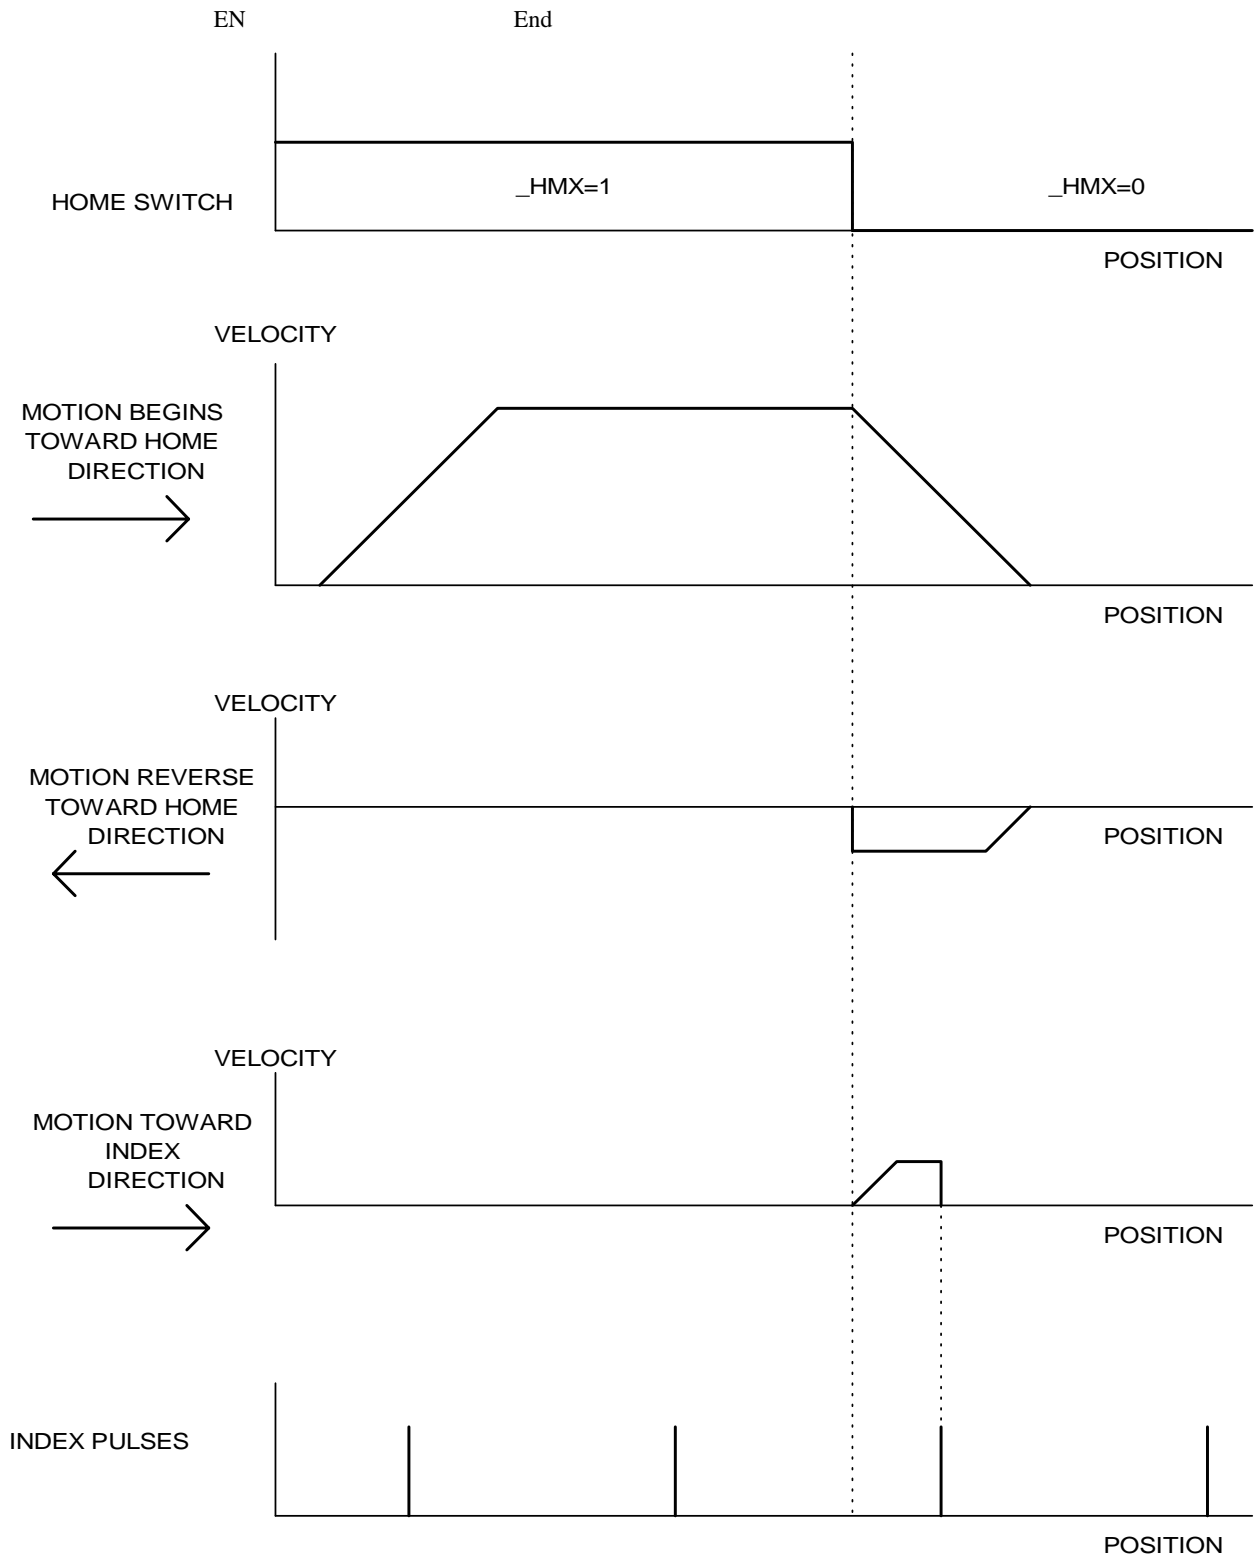

Figure 6.8 - Motion intervals in the Home sequence
The Find Edge (FE) instruction is useful for initializing the motor to a home switch. The home switch is connected to the Homing Input. When the Find Edge command and Begin is used, the motor will accelerate up to the slew speed and slew until a transition is detected on the Homing line. The motor will then decelerate to a stop. A high deceleration value must be input before the find edge command is issued for the motor to decelerate rapidly after sensing the home switch. The velocity profile generated is shown in Fig. 6.8.